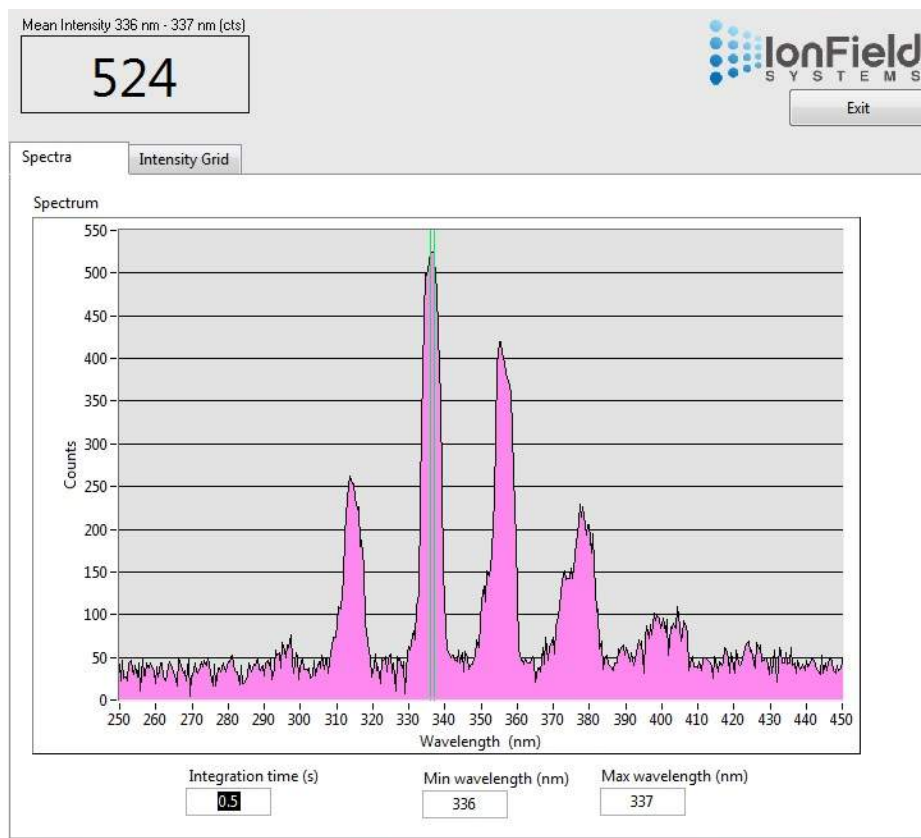

Figure 2 - Spectra Tab - Typical Plasma Spectrum
wavelengths of 336 and 337 nm. Wavelengths between 336-337 nm collect light from the highest of the 5 nitrogen emission peaks from plasma excitation, as seen in Figure 2 below. An integration time of 0.5s produces the optimal reading when balancing time and output accuracy. If the default values above are changed, the new values will become the defaults in the future.
8. Insert the tip of the fiber optic cable into a well on the TipCharger while it is turned on and operating, and a bright pink graph of the spectrometer output like the one below in Figure 2 should appear. This output shows the peaks for the nitrogen excitation by the plasma, with the green lines at 336/337 nm corresponding to the greatest excitation peak. Try pointing the tip of the fiber optic cable towards different lights sources see how the output changes.